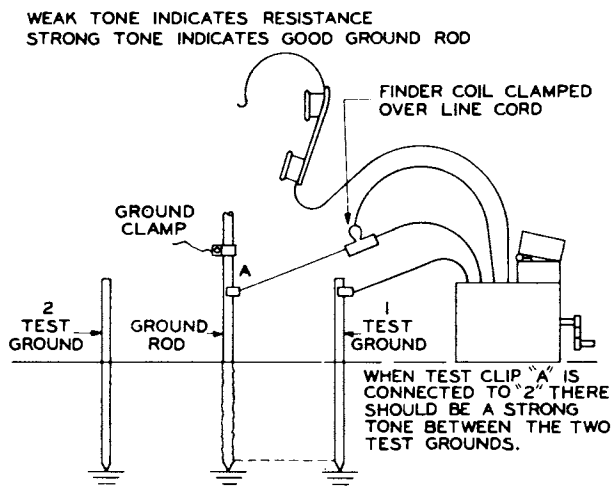

Figure 13. Connection for quality of ground connection.
- a. Drive two test-ground rods into the ground approximately 20 feet apart and 20 feet away from the working ground to be tested (figure 13).